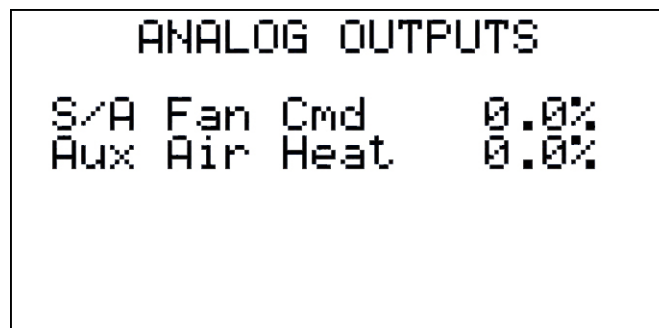

Figure 98
2.3.3.3.4 Analog Output (Figure 98)